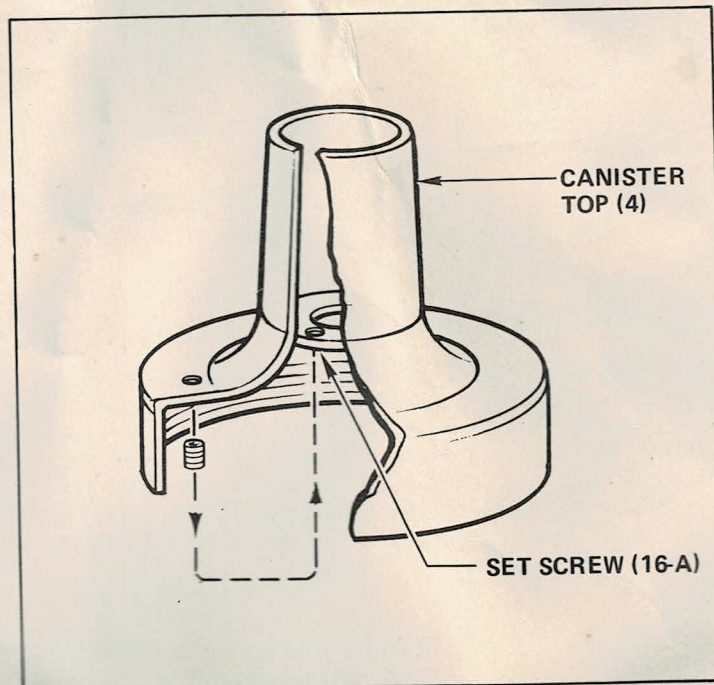

FIGURE 1: Converting sand blast gun from pressure feed to siphon feed operation.
TO CHANGE MODEL NO. 106.168010 FROM PRESSURE FEED TO SIPHON FEED OPERATION — Refer to Figures 1 and 5 — Remove the gun canister (15), material tube (11) and the retainer nut (9). Use the Allen wrench provided to remove the set screw (16-A) and relocate in the hole provided near the center of the canister top, as shown in Figure 1. Replace the retainer nut, material tube and canister top. Your sand blast gun is now ready for siphon feed operation.